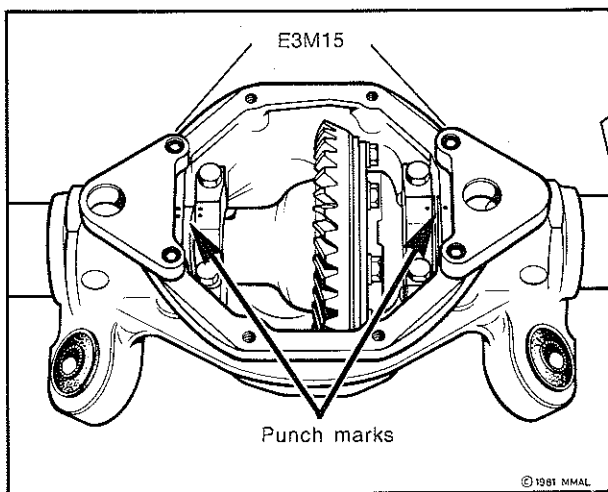

Fig. 20—Bearing cap identification
(10) Mark carrier and differential side bearing caps for location in assembly, refer Fig. 20.